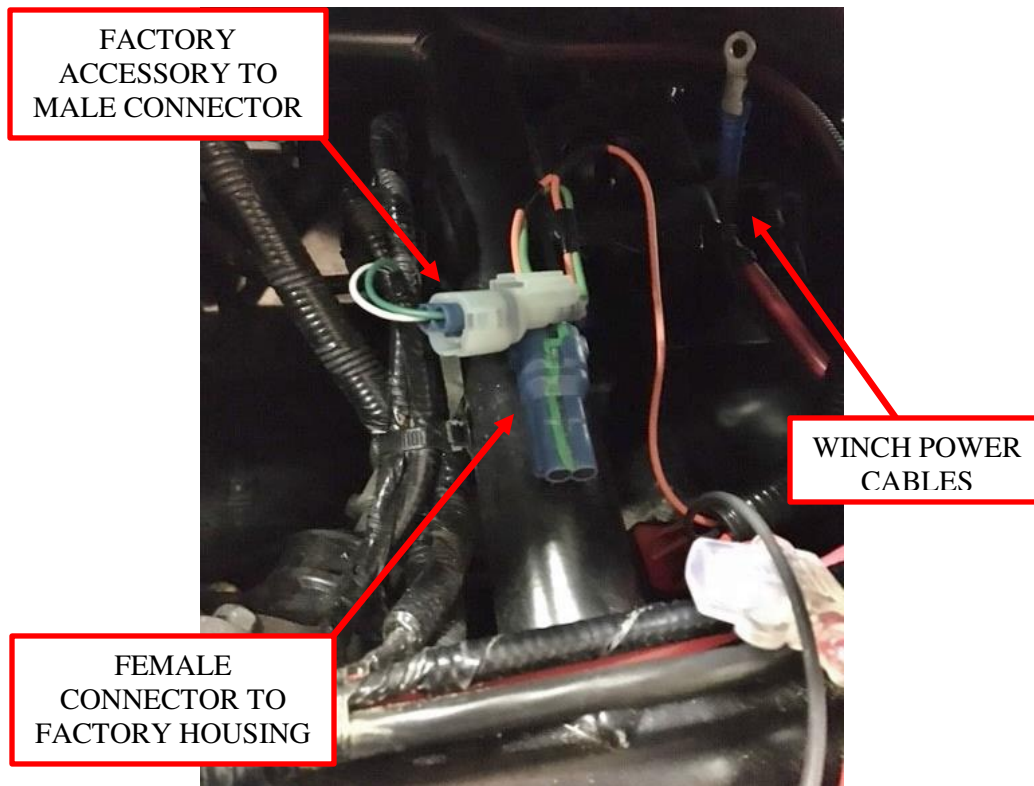

Figure 9: Connect to the accessory connector.
- Unplug the factory accessory connector from the housing, and plug it into the mating male *Audio Mini* chassis connector. Plug the female *Audio Mini* chassis connector back into the factory housing on the frame tube. See Figure 9.
- Using the winch power cables shown in Figure 8 and Figure 9, use the ¼"-20 x ½" bolts and hardware to connect the black ground wire to the black (negative) ring terminal and the red power wire to the red (positive) ring terminal. Slide the provided insulators over the bolted ring terminals to prevent arcing or shorting of the power cables.